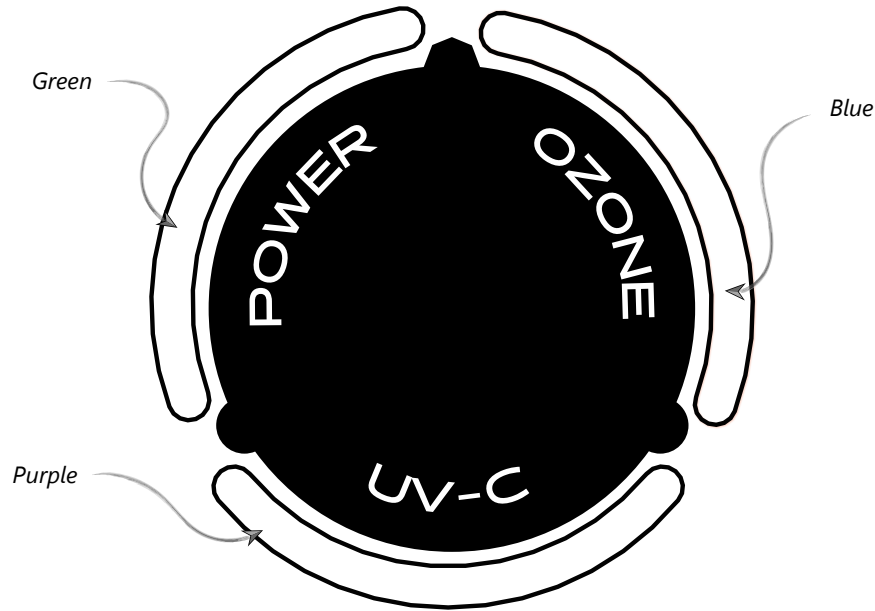

Figure 7: LED Indications at Normal Operation
- Connect Line 1, Line 2 or Neutral, and Ground to the terminal block as indicated by the label on the electrical panel located on the inner right side of enclosure (see Figure 7).